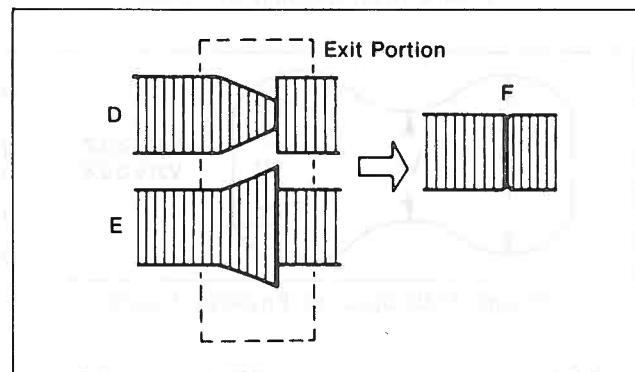

Figure M23
6. If the RF envelope appears like example "D" or "E" in Figure M23, then adjustment of the tape guide post (P3 : Exit) is necessary.
7. Adjust the tape guide post (P3) in the same manner as the P2 post so that the exit portion becomes flat as shown in Figure M23—"F".